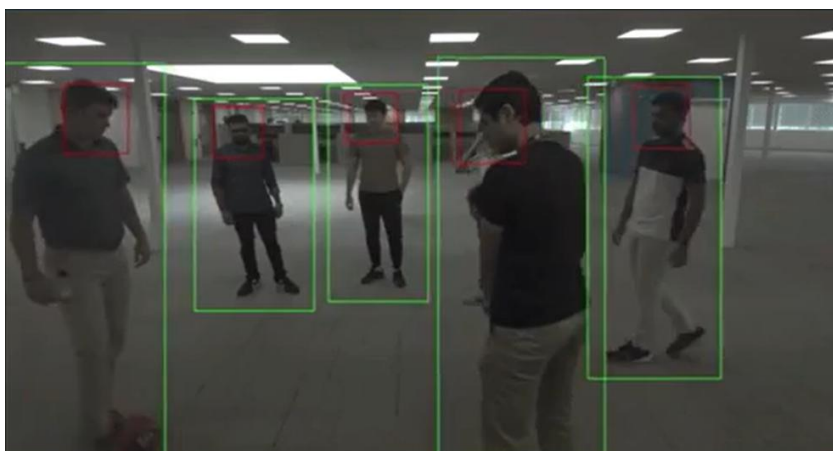

Figure 6.33. Live TAO PeopleNet Output
3. Run the TAO PeopleNet example to display live person detection in the video, as shown in Figure 6.33. You can check the parameter configurations listed in: